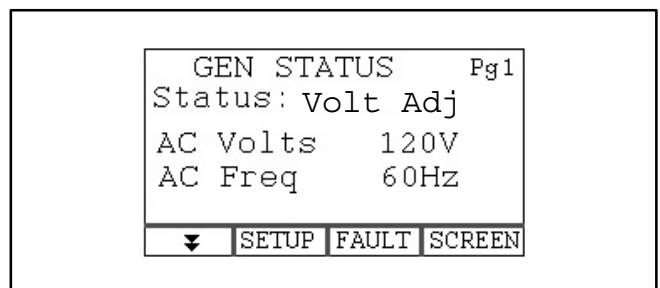

FIGURE 7. VOLTAGE ADJUSTMENT SCREEN
2. Rapidly press **START** 6 times *during the first minute after startup* to put the genset controller into *voltage adjust mode*. The green status light will begin blinking about once every second and the Display will indicate a Status change from *Running* to *Volt Adj* (Figure 7).